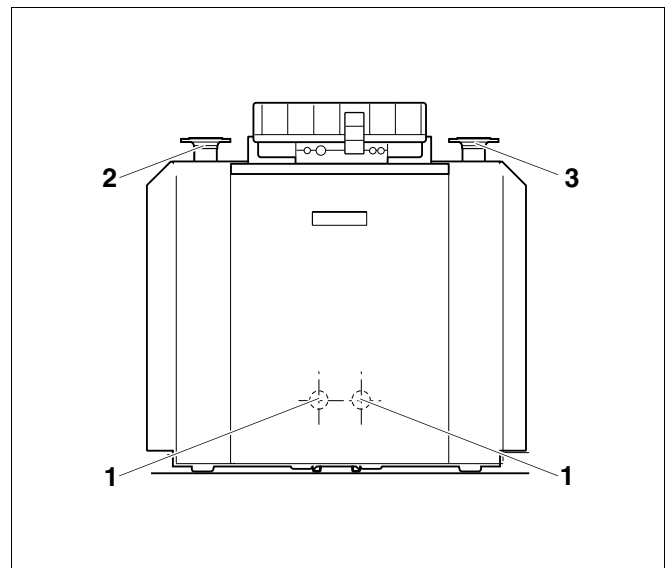

Fig. 2 Water connections
- Connect the heating system return stress-free to the boiler return = RK (Fig. 2, **Item 3**).
- Connect the heating system flow stress-free to the boiler flow = VK (Fig. 2, **Item 2**).